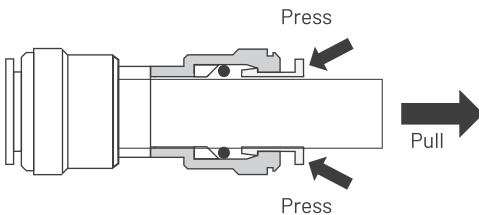

Figure 2
- Use your other hand to pull out the tubing from the fitting (Figure 2).